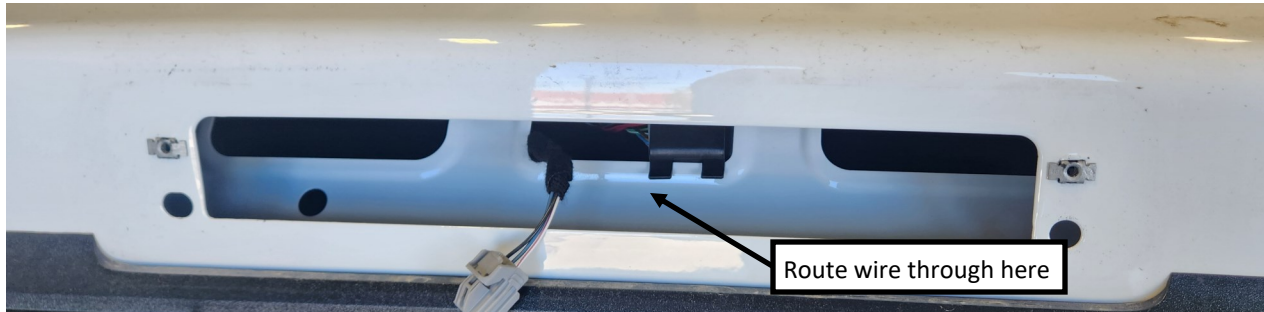

Figure 4—Wire routing.
7. Feed the wire through the hole behind the 3rd brake light and route it through the cab to a suitable switch mounting location. **(Figure 4)**